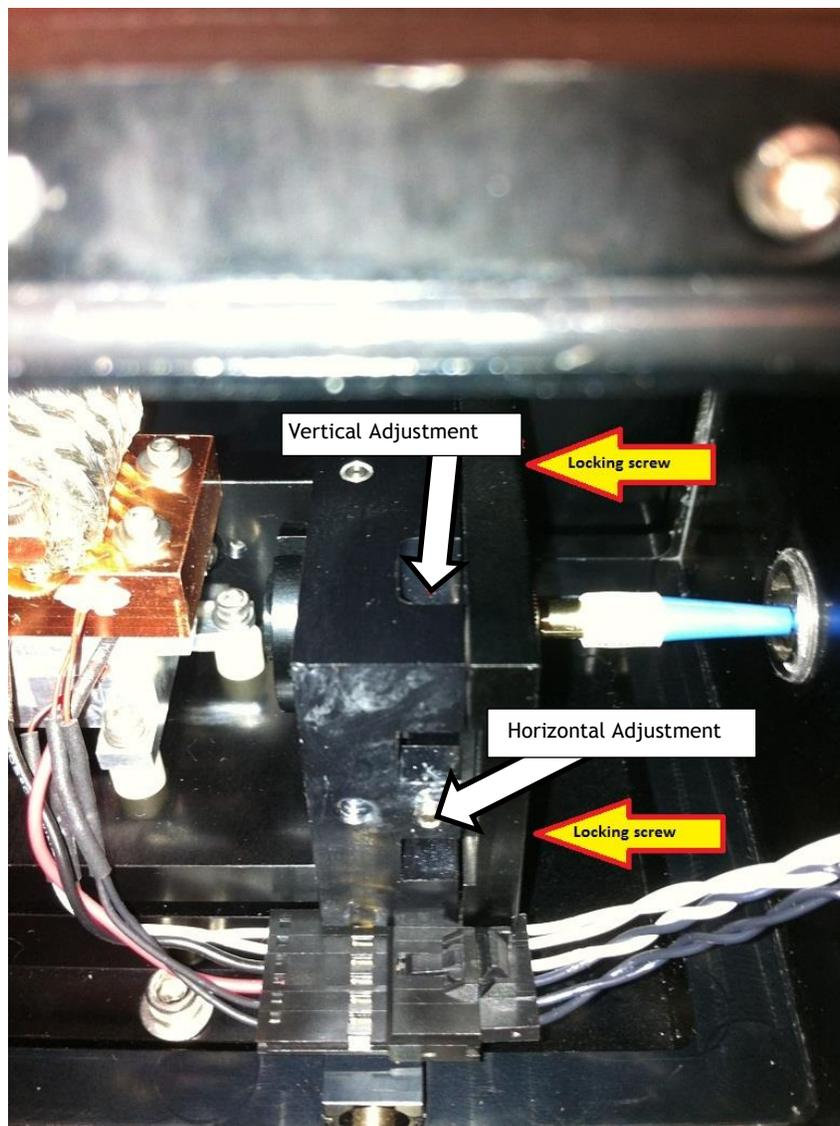

Figure 33: Locking and Adjustment Screws
- 4.60. To adjust the fiber X-Y position, begin by loosening the two fiber adjustment locking screws located on the rear of the YAG assembly. A Chapman wrench with a #6 bit (3/32 inch) is the easiest way to access the two locking screws. Figure 33 shows the locations of the locking screws as well as the fiber X-Y adjustment screws.